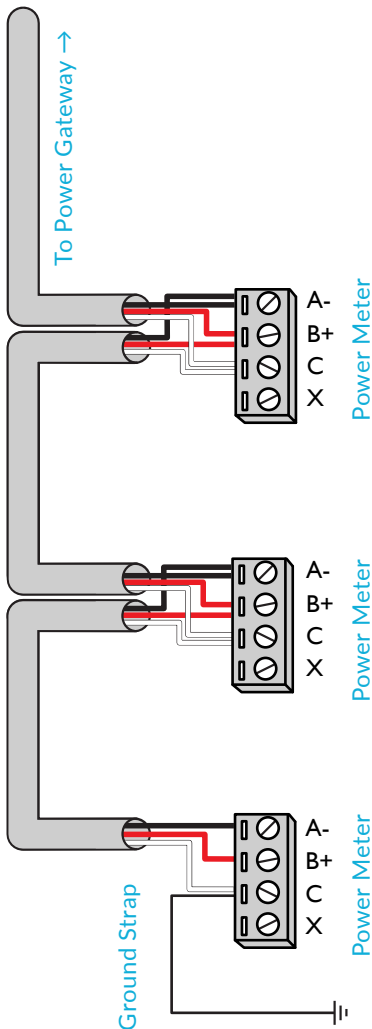

Figure 3: Daisy Chain Wiring
1. Connect Power Meters to each other in a daisy chain manner (see Figures 3 and 4).